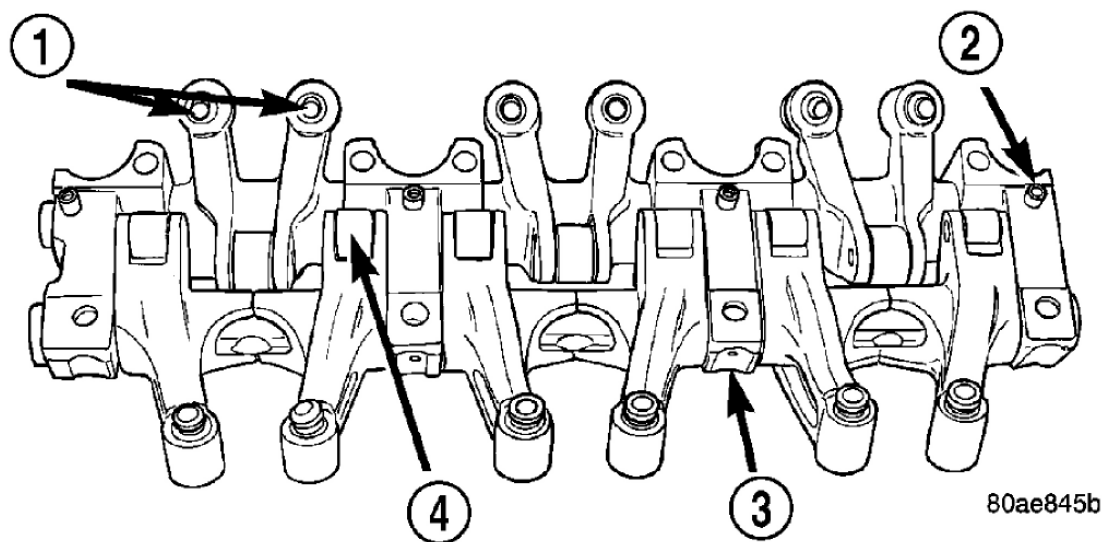

Fig. 153: Assemble Rocker Arms and Shaft
1. Install the rocker arms, and pedestals (3) onto the shaft.
2. Install dowel pins (2). See **Fig. 153**. Dowel pins (2) pass through the pedestal (3) into the exhaust rocker